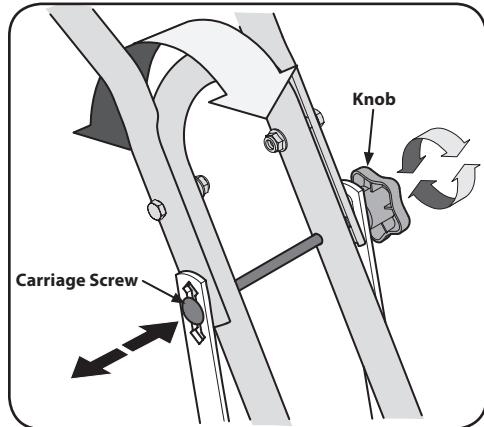

Figure 2-4
- There are three height adjustment holes in the handlebar support bracket. Use a setting that will position the handlebars at approximately waist level when the tines are 3-4" into the soil. To adjust the height of the handlebars loosen the knob on the handle, pull out on the carriage screw, adjust to the desired setting, push the carriage screw in until the square portion of the screw locks into place and re-tighten the knob. See Figure 2-4.